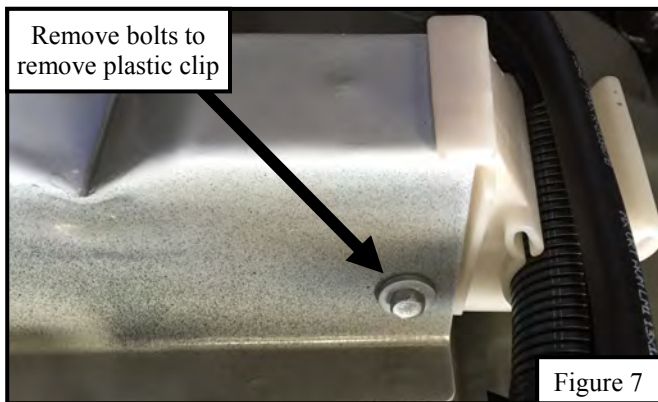

Figure 7
- At the rear driver side of the vehicle locate a plastic clip that holds wires in place. Remove plastic clip and leave off to the side with wires still attached. **See Figure 7.**
11. Re-attach plastic clip, shown in **Figure 7**, back onto the bed channel.